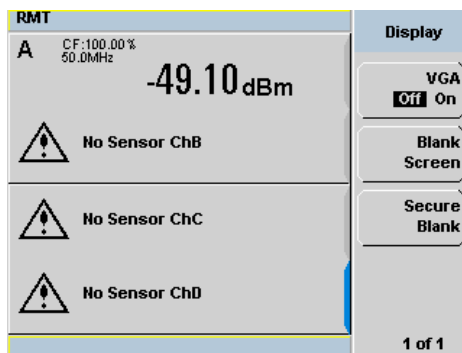

Figure 2-56 VGA toggle ON/OFF
- 3 Press **Display** to toggle ON/OFF the VGA feature (see Figure 2-56).